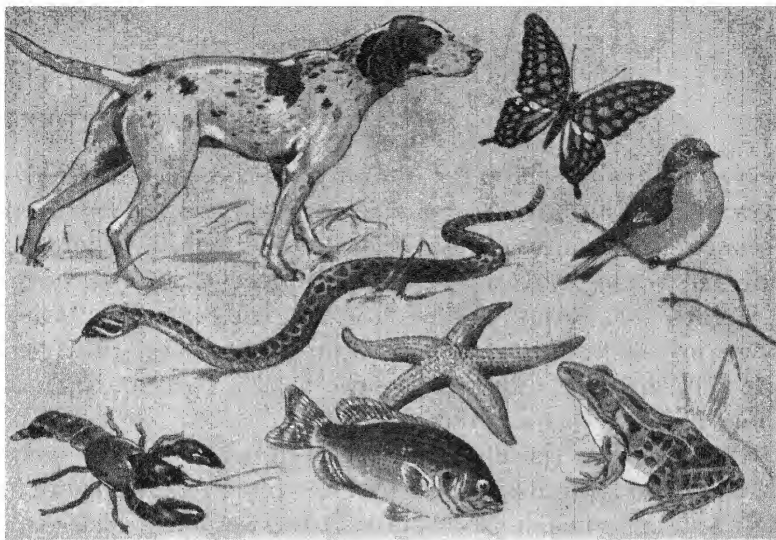
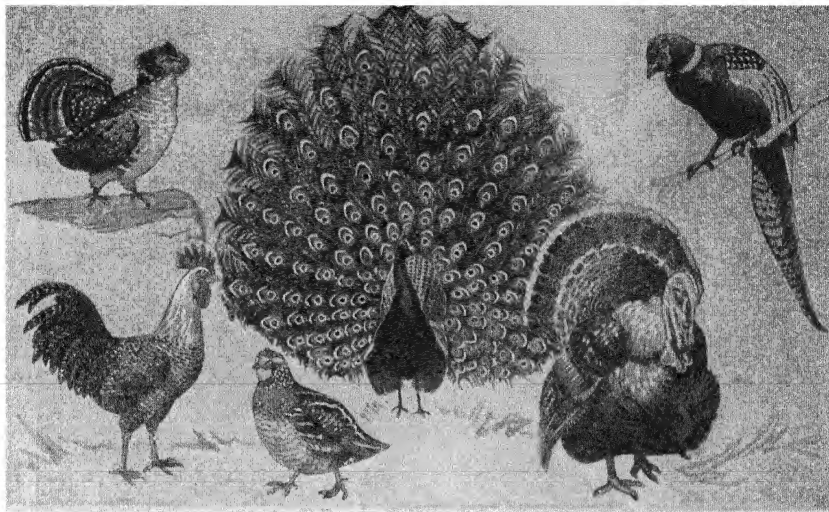

FIG. 61. A few examples of vertebrate and invertebrate animals
FIG. 64. All these birds belong in the same group as the chicken.
Study Figure 61 carefully. Look at each of the many different kinds of animals shown there. You can easily see that each animal has a different plan of structure; that is, each animal is built of different parts put together in different ways. Now the problem is to compare these animals. We want to find how they are alike and how they are different so that we can separate them into different groups. Each group must include animals whose structure is alike in certain ways. Furthermore, the animals of each group must differ in some way from the animals in the other groups.
Can you divide the animals in Figure 61 into two groups according to their structure? Probably not. The scientist,
Now look at Figure 64. These are all birds belonging to one of the groups mentioned above. To tell these birds apart, you must examine more details of their structure than you did before. You must consider the size of the bird, the color of the feathers on various parts of the body, and many other details.
You will see, as you go from Figure 61 to Figure 64, that the animals are more and more alike. It would be possible to divide the last group of birds into still smaller groups. For example, you could select the chicken and show many different kinds of chickens, as you well know if you live on a farm. From such a picture you could name each different kind of chicken.
2. Look at Figure 61. In what way are reptiles, amphibians, fish, birds, and mammals alike?